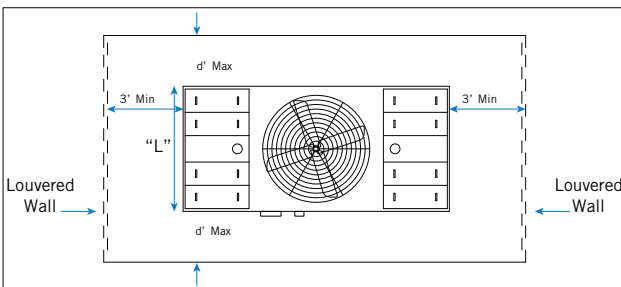

Figure 4. Plan View of Dual Air Intake Unit in Enclosure with Louvered Walls
- a. Units should be arranged within the enclosure such that the air intake directly faces the louver or slot locations as shown in **Figure 4**, with a minimum distance of three feet.